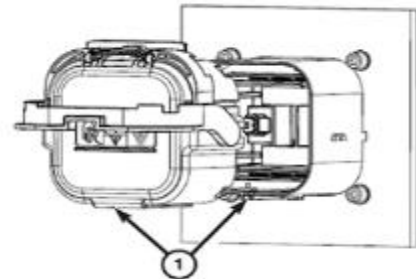

Figure 12 – MSD Installation
- c) Align the polarization feature (1) of the high-voltage MSD with the receptacle on the high-voltage battery (Figure 12).
- d) Push the high-voltage MSD evenly into the receptacle with the lever (1) in the 90° position.